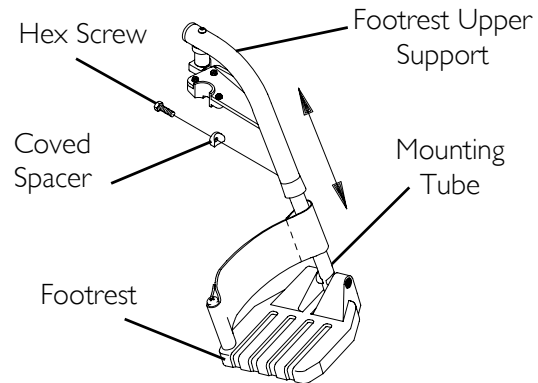

FIGURE 5.3 Adjusting Footrest Height - 60°, 70° and 90° Taper
NOTE: For this procedure, refer to FIGURE 5.3.
3. Reassemble the hex screw and coved spacer through the footrest upper support and mounting tube (FIGURE 5.3).